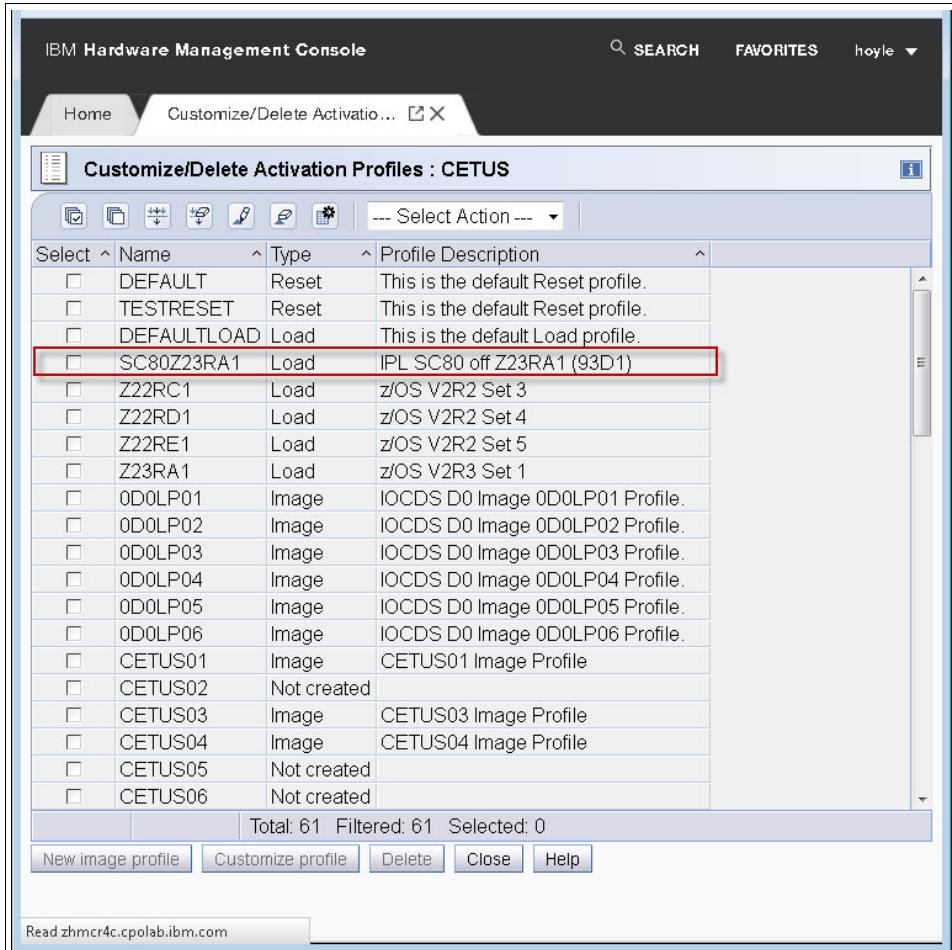

Figure 5-47 Customize Load Profiles: New Load profile
- Click **Save**, then click **OK** to continue to the Save window (Figure 5-47).